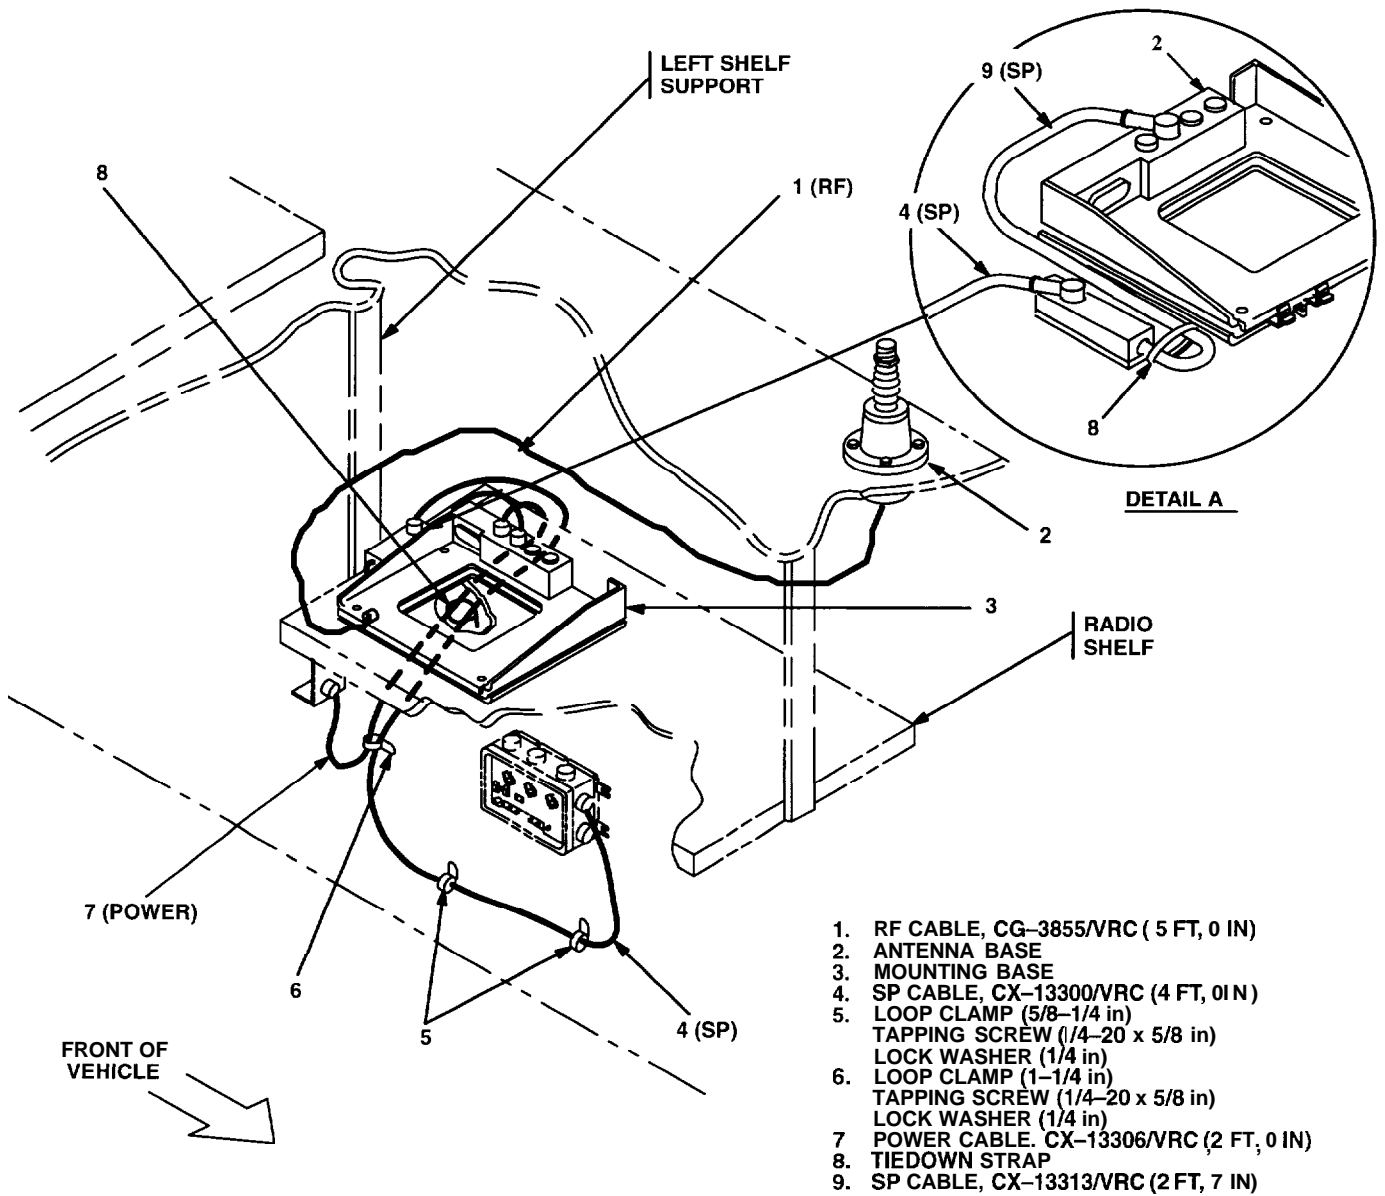

Figure 5-5. Cable Installation: Roadside Interior
a. RF cable (1) connector P1.	Connect and secure to antenna base (2) connector J1. See figure 5-5.
b. RF cable (1) connector P2.	Position on top of mounting base (3). See figure 5-5.
c. SP cable (9) connector P2.	Connect and secure to mounting base (3) connector J3. See figure 5-5, detail A.
d. SP cable (9).	Position on left side of mounting base (2); then secure with tiedown strap (8).
e. SP cable (3) connector P2.	Connect and secure to SP cable (9) connector P1.
f. Power cable (7) connector P2.	Position on top of mounting base (3). See figure 5-5.
g. SP cable (4) and power cable (7).	Route down wall behind radio shelf.
h. Power cable (7) connector P1.	Connect and secure to power Bendix connector beneath left side of radio shelf.
i. SP cable (4) connector P1.	Connect and secure to AM-I 780/VRC connector J501.